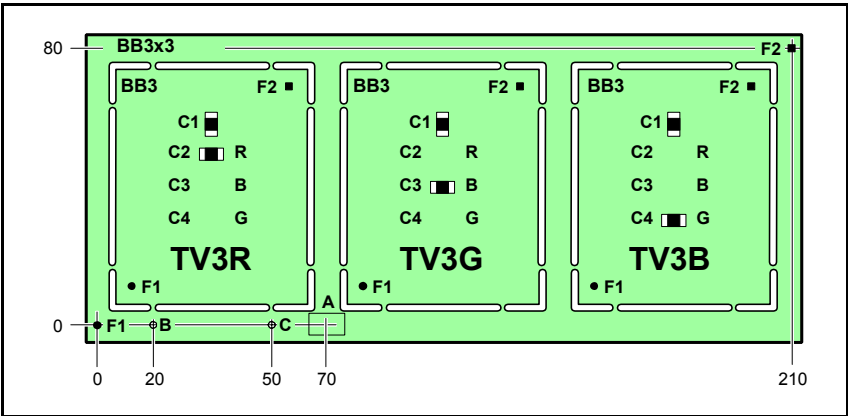

Figure 2-40. TV3RGB-P3 panel header information
9. Press <F1> and center the cross hairs on fiducial mark 1 (F1) and fiducial mark 2 (F2) of the TV3R board (see Figure 2-40 on page 2-41).